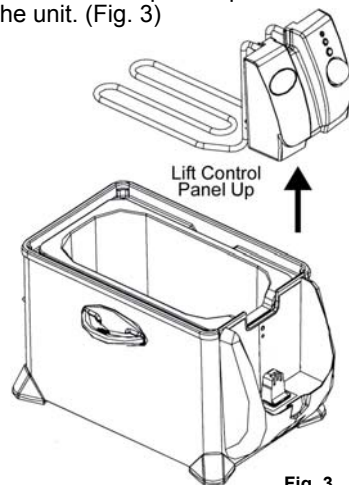

Fig. 3
- Lift the control panel up and remove from the unit. (Fig. 3)